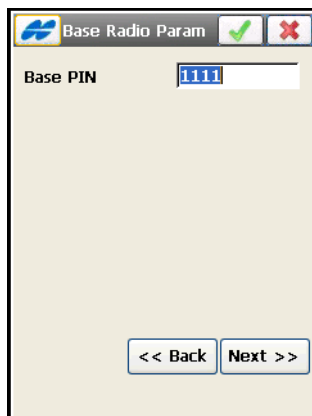

Figure 4-18. Base Cell Phone Parameters
- For the Internal HiPer GSM, Internal HiPerXT GSM, Internal CR-3(GSM), Internal CR-3Satel(GSM), Motorola V60, Motorola V710, MultiTech GSM/GPRS, Siemens TC35, Siemens M20, Wavecom Fastrack GSM or Nextel i58sr Cell Phone modem types, set the Base PIN (see Figure 4-18).